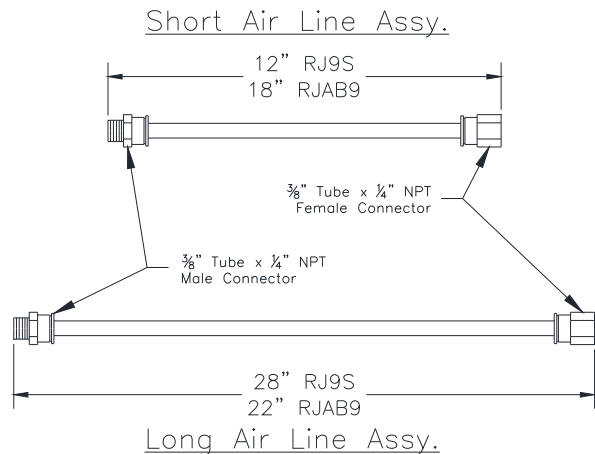

Figure 10
14. Cut (2) lengths of 3/8" tubing and attach fittings to ends as shown in **Fig 10**.